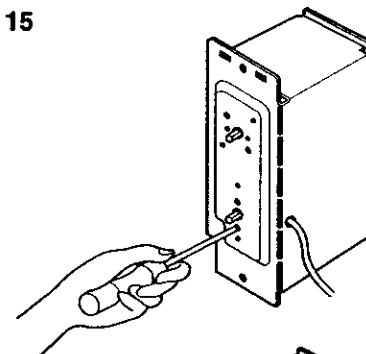

Figure 16
3. Remove 2 screws which fasten the thermostat. (See Figure 16)